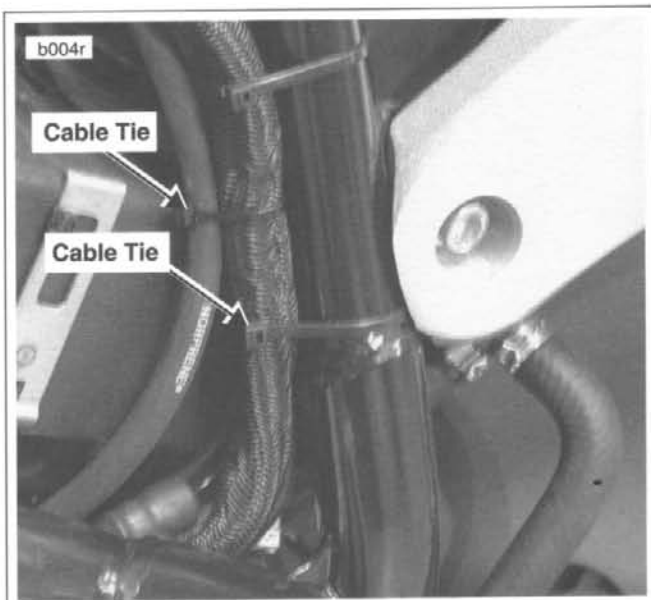

Figure 2-91. Rear Brake Line - Left Side
12. See Figure 2-91. Cut cable tie on wiring harness and cable tie on vent tube on left side of bike.
- See Figure 2-91. Cable tie vent hose and wire harness to frame on left side of motorcycle. NOTE: Use thick cable tie on wire harness and thin cable tie on vent hose. Use care to avoid pinching hose.